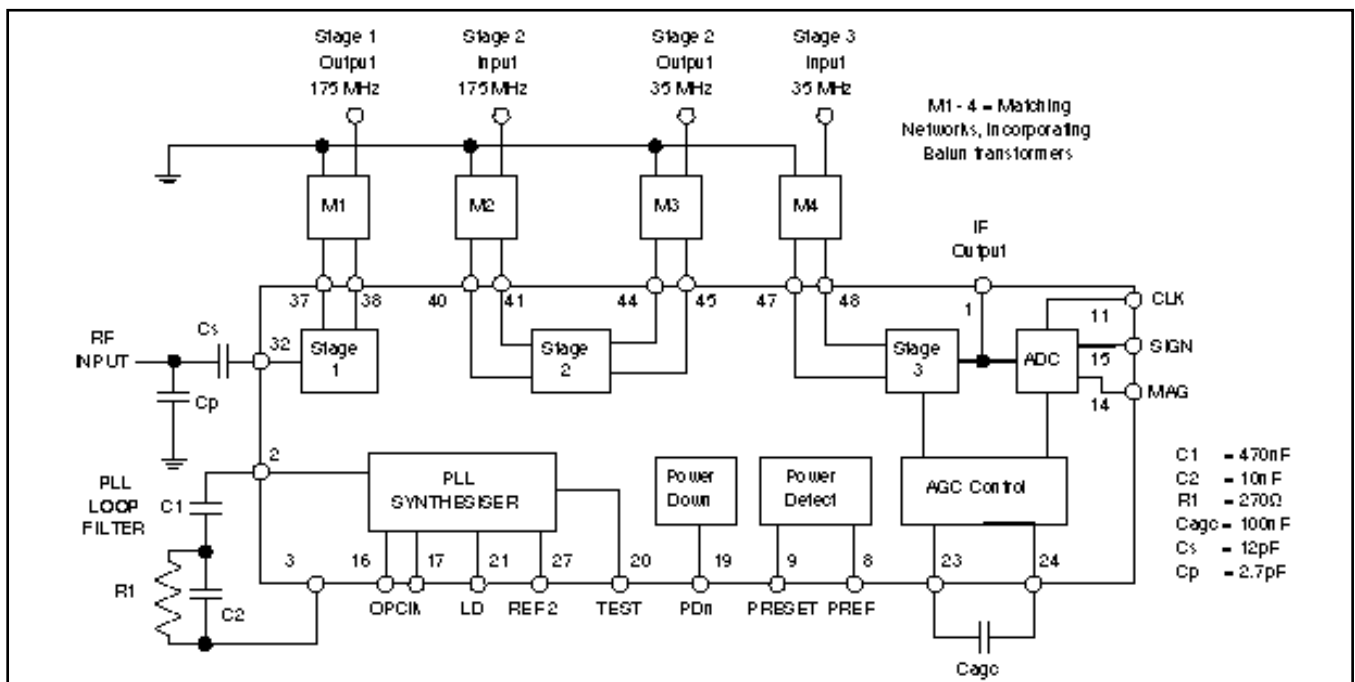

Fig. 3 GP2015 test circuit
**Notes On Electrical Characteristics:-** All RF measurements are made with appropriate matching to the input or output impedances, such as balun transformers, and levels refer to matched 50ohm ports (see figure 3 for test circuit)